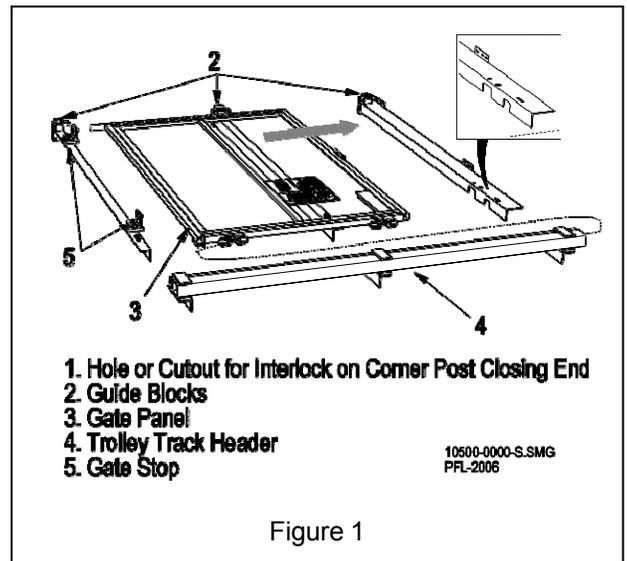

Figure 1
1. Lay the gate posts on the floor parallel to each other. **See Figure 1.**
1. Lay the gate posts on the floor parallel to each other with the gate post that has the hole or cutout for the interlock on the closing end. The middle post should have two holes near the base plate for mounting the guide block. **See Figure 1.**